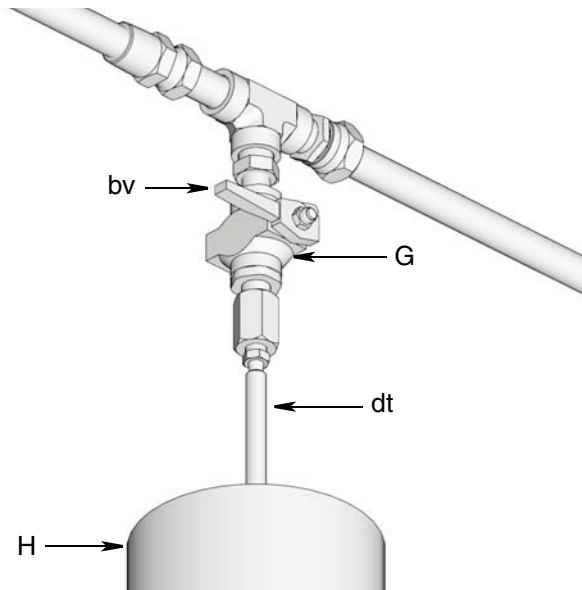

FIG. 15: In line installation shown
3. Turn off air supply to refilling pump (P).
4. Relieve pressure between the remote filling station pump (P) and the Auto-Fill Shut Off (S):
- a. Open ball valve (bv) (FIG. 15). Pressure will be released and excess fluid will drain out of the drain tube (dt) and into the lubrication collection container (N).